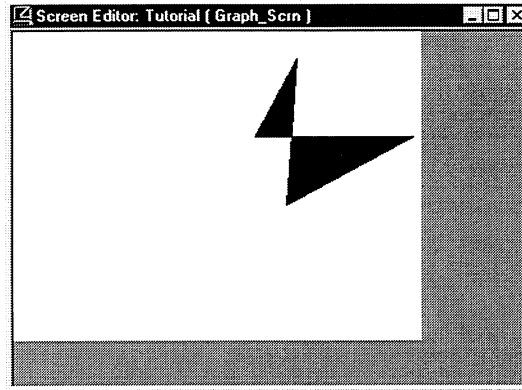

Figure 4-27. Adding a Polygon to the Graph\_Scrn
3. Create a polygon that looks like the one depicted in Figure 4-27. To create a polygon, click where you want to place a point. Continue placing points to complete the polygon, then double-click when you want to complete the polygon.